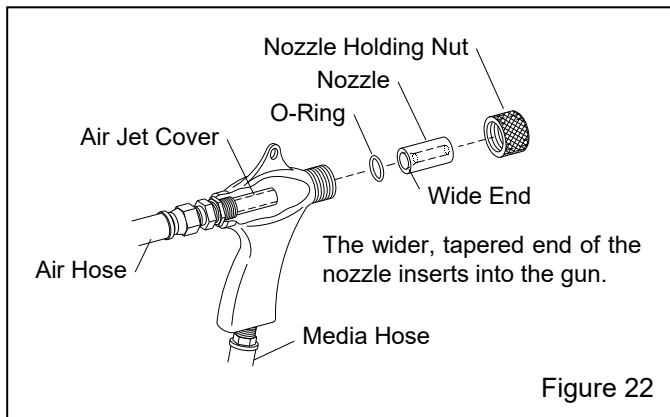

Figure 22
7.2 BNP® Gun and Hose Assembly – Figure 22